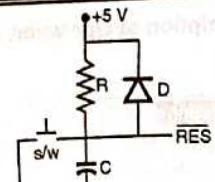

Fig. 3.2.3
- Fig. 3.2.3 illustrates power-on-reset circuit.